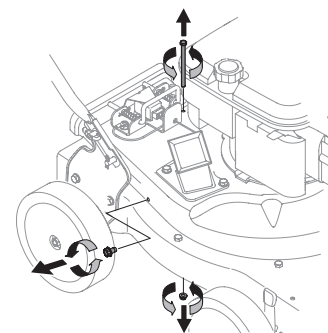

Figure 17
5. Remove self tapping screw on right side of unit that attaches to the flail screen. It may be necessary to remove the hose bracket hanger (if equipped) to get access to the screw. See Figure 17.
6. Remove hex screw on top of rear housing near mounting bracket and the flange lock nut that secures flail screen. See Figure 17.